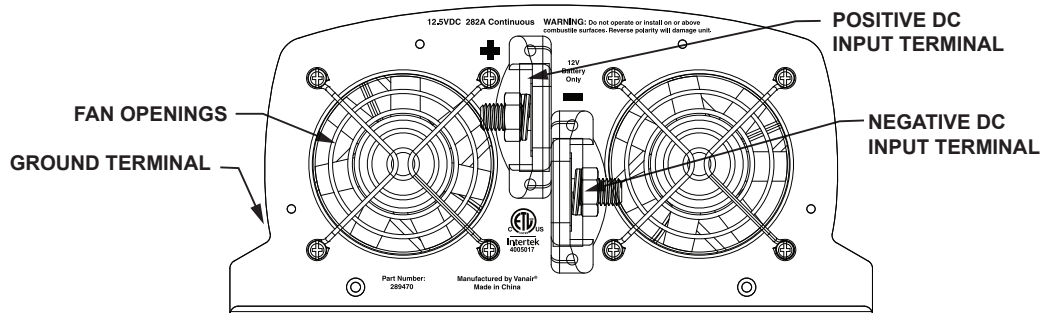

Figure 1-2: DC Input Back Panel
- Connect the grounding cable ring terminal to the chassis ground screw or stud terminal. (See “*Figure 1-2: DC Input Back Panel*”.)